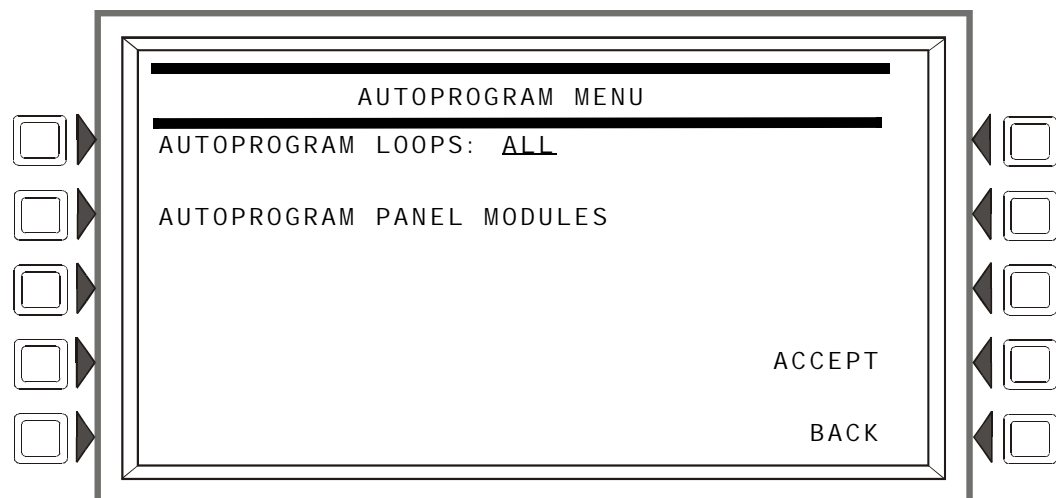

Figure 3.48 Autoprogram Menu Screen
3. Press the AUTOPROGRAM LOOPS soft key and enter the desired SLCs (loops 1+2 in this example), or select AUTOPROGRAM PANEL MODULES in the Autoprogram Menu screen (Figure 3.48)